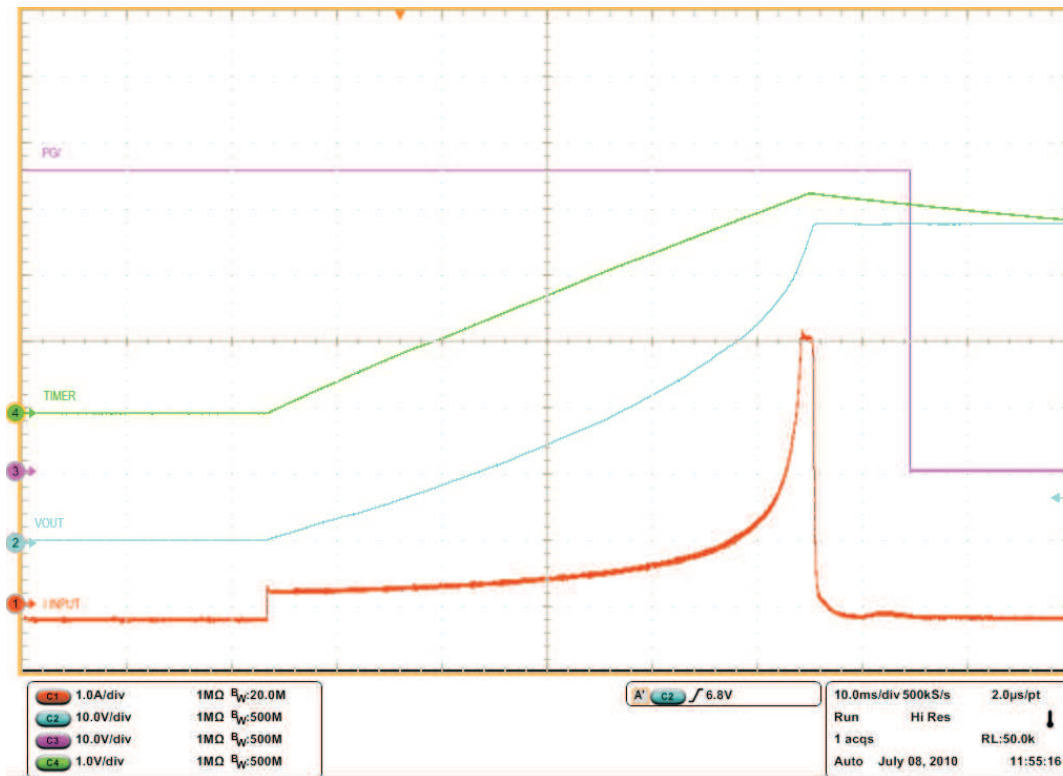
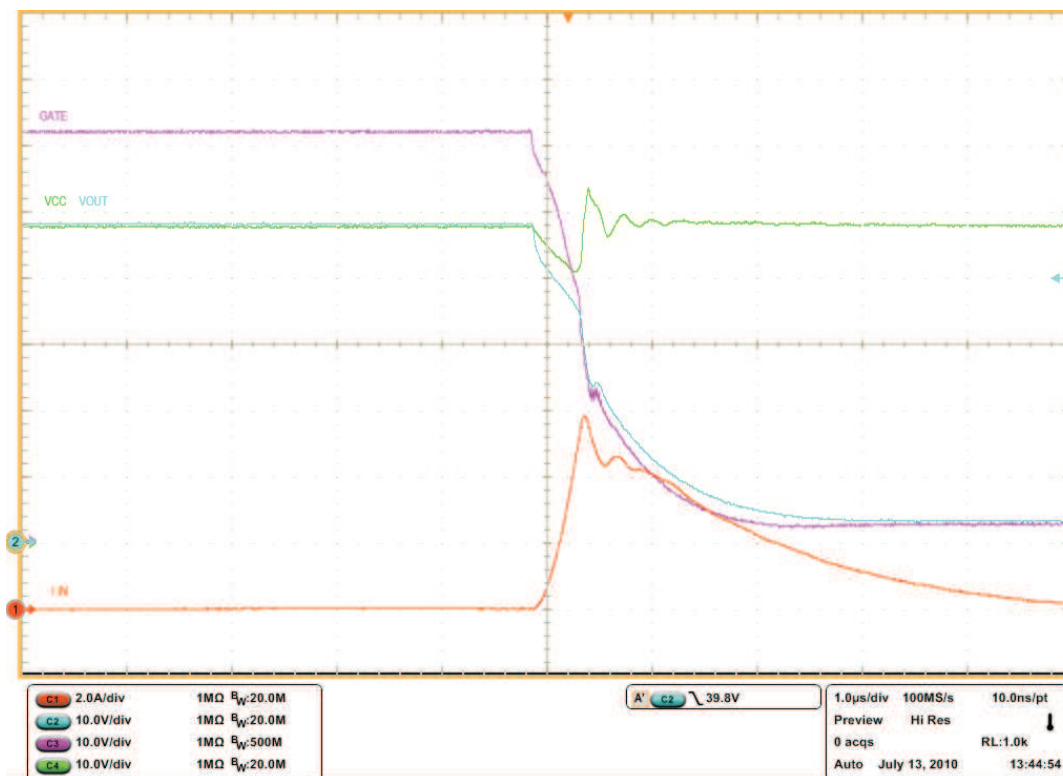

Figure 13. Basic Board Insertion
Figure 17. Current Limit Onset
A capacitor may be tied from PROG to ground to alter the natural constant power inrush current shape. If properly designed, the effect is to cause the leading step of current in Figure 13 to look like a ramp. It is not recommended that this mechanism be used to achieve a long and low ramp inrush current because the power limiting accuracy is lower at  $V_{\text{PROG}} < 0.4$  V. PROG is internally pulled to ground whenever UVEN, POR, or UVLO are not satisfied or the TPS2492 is latched off. This feature serves to discharge any capacitance connected to the pin. Do not apply voltages greater than 4 V to PROG. If the constant power limit is not used, PROG should be tied to VREF through a 47-k $\Omega$  resistor.
The TPS2492/93 features power-limiting FET protection that allows independent control of current limit (to set maximum full-load current), power limit (to keep FET in its safe operating area), and overload time (to control temperature rise). The power limiting feature controls the  $V$  and  $I$  across the FET to protect it, and does not control load power. This protection is a specialized form of foldback output limiting. Given a constant power dissipation, computation of peak junction temperature is straight forward. The TPS2393 provides a small operating duty cycle into a short, reducing the average temperature rise of the FET to levels similar to normal operation in many systems. This prevents overheating and failure with prolonged exposure to an output short. The typical application circuit, and oscilloscope plots of Figure 13 and Figure 17 demonstrate many of the functions described above.
### Board Plug-In (Figure 13)
Only the bypass capacitor charge current and small bias currents are evident when a board is first plugged in as seen in Figure 13. The TPS2492/93 is held inactive with GATE, PROG, and TIMER held low, and with  $\overline{PG}$  and FLT open drain, for less than 1 ms while internal voltages stabilize. Then GATE, PROG, TIMER, FLT and  $\overline{PG}$  are released and the part begins sourcing current to the GATE pin because UVEN is high and OV is low. The external FET begins to turn on while the voltage across it,  $V_{(SENSE-OUT)}$ , and current through it,  $V_{(VCC-SENSE)}/R_{SENSE}$ , are monitored. Current initially rises to the value which satisfies the power limit engine ( $P_{LIM}/V_{VCC}$ ) since the output capacitor was discharged. The shape of the input current waveform shows the operation of the FET power limit. In this case, the 5-A current limit is never reached as the output reaches full charge. This is likely due to the limited gate slew rate.
### TIMER and $\overline{\text{PG}}$ Operation (Figure 13)
The TIMER pin charges  $C_T$  as long as limiting action continues, and discharges at a 1/10 charge rate when limiting stops. If the voltage on  $C_T$  reaches 4 V before the output is charged, the external FET is turned off and either a latch-off or restart cycle commences, depending on the part type. The open-drain  $\overline{\text{PG}}$  output provides a deglitched end-of-charge indication which is based on the voltage across the external FET.  $\overline{\text{PG}}$  is useful for preventing a downstream DC-to-DC converter from starting while  $C_O$  is still charging.  $\overline{\text{PG}}$  goes active (low) about 9 ms after  $C_O$  is charged. This delay allows the external FET to fully turn on and any transients in the power circuits to end before the converter starts up. The resistor pull-up shown on pin  $\overline{\text{PG}}$  in the Typical Application Circuit only demonstrates operation; the actual connection to the converter depends on the application. Timing can appear to terminate early in some designs if operation transitions out of the power limit mode into a gate charge-rate limited mode at low  $V_{\text{DS}}$  values. This effect sometimes occurs because gate capacitances,  $C_{\text{GD}}$  and  $C_{\text{GS}}$ , are nonlinear with applied voltage, getting larger at smaller voltage. This can be seen in Figure 13.
The calculated power dissipated in the external FET,  $V_{DS} \times I_D$ , is computed under the same startup conditions as Figure 13. The current of the external FET, labeled  $I_{IN}$ , initially rises to the value that satisfies the constant power engine; in this case it is  $25\text{ W} / 48\text{ V} = 0.52\text{ A}$ . The 25-W value is programmed into the engine by setting the PROG voltage using R4 and R5.  $V_{DS}$  of the external FET, which is calculated as  $V_{(SENSE-OUT)}$ , falls as  $C_O$  charges, thus allowing the external FET drain current to increase. This is the result of the internal constant power engine adjusting the current limit reference to the GATE amplifier as  $C_O$  charges and  $V_{DS}$  falls. The calculated device power in Figure 14, labeled POWER, is seen to be reasonably constant within the limitations of circuit tolerance and acquisition noise. A fixed current limit is implemented by clamping the constant power engine output to 50 mV when  $V_{DS}$  is low. This protection technique can be viewed as a specialized form of foldback limiting; the benefit over linear foldback is that it yields the maximum output current from a device over the full range of  $V_{DS}$  while still protecting the device.
**Response to a Hard Output Short (Figure 15, Figure 16, and Figure 17)**
The TPS2492/93 responds rapidly to a short circuit as seen in Figure 17. The falling OUT voltage is the result of the external FET and  $C_O$  currents through the short circuit impedance. The internal GATE clamp causes the GATE voltage to follow the output voltage down and subsequently limits the negative  $V_{GS}$ . The  $I_{IN}$  waveform includes current into an input 47  $\mu\text{F}$  capacitor. M1 drain current has a peak value in excess of the waveform, and terminates when  $V_{GATE}$  approaches  $V_{OUT}$ . The rapidly rising fault current overdrives the GATE amplifier causing it to overshoot and rapidly turn the external FET off by sinking current to ground. At a time beyond the extent of Figure 17, but within the scope of Figure 15, the FET will be slowly turned back on as the GATE amplifier recovers. The operating point will settle to the current or power limit, and finally the TIMER will expire and the FET will turn off.
Limited input voltage overshoot appears in Figure 17 because a local 47- $\mu\text{F}$  bypass capacitor and 1000  $\mu\text{F}$  distribution capacitor were used. The input voltage overshoots as the input current abruptly drops due to the stored energy in the input wiring inductance. The exact waveforms seen in an application depend upon many factors including parasitics of the voltage distribution, circuit layout, and the short itself.